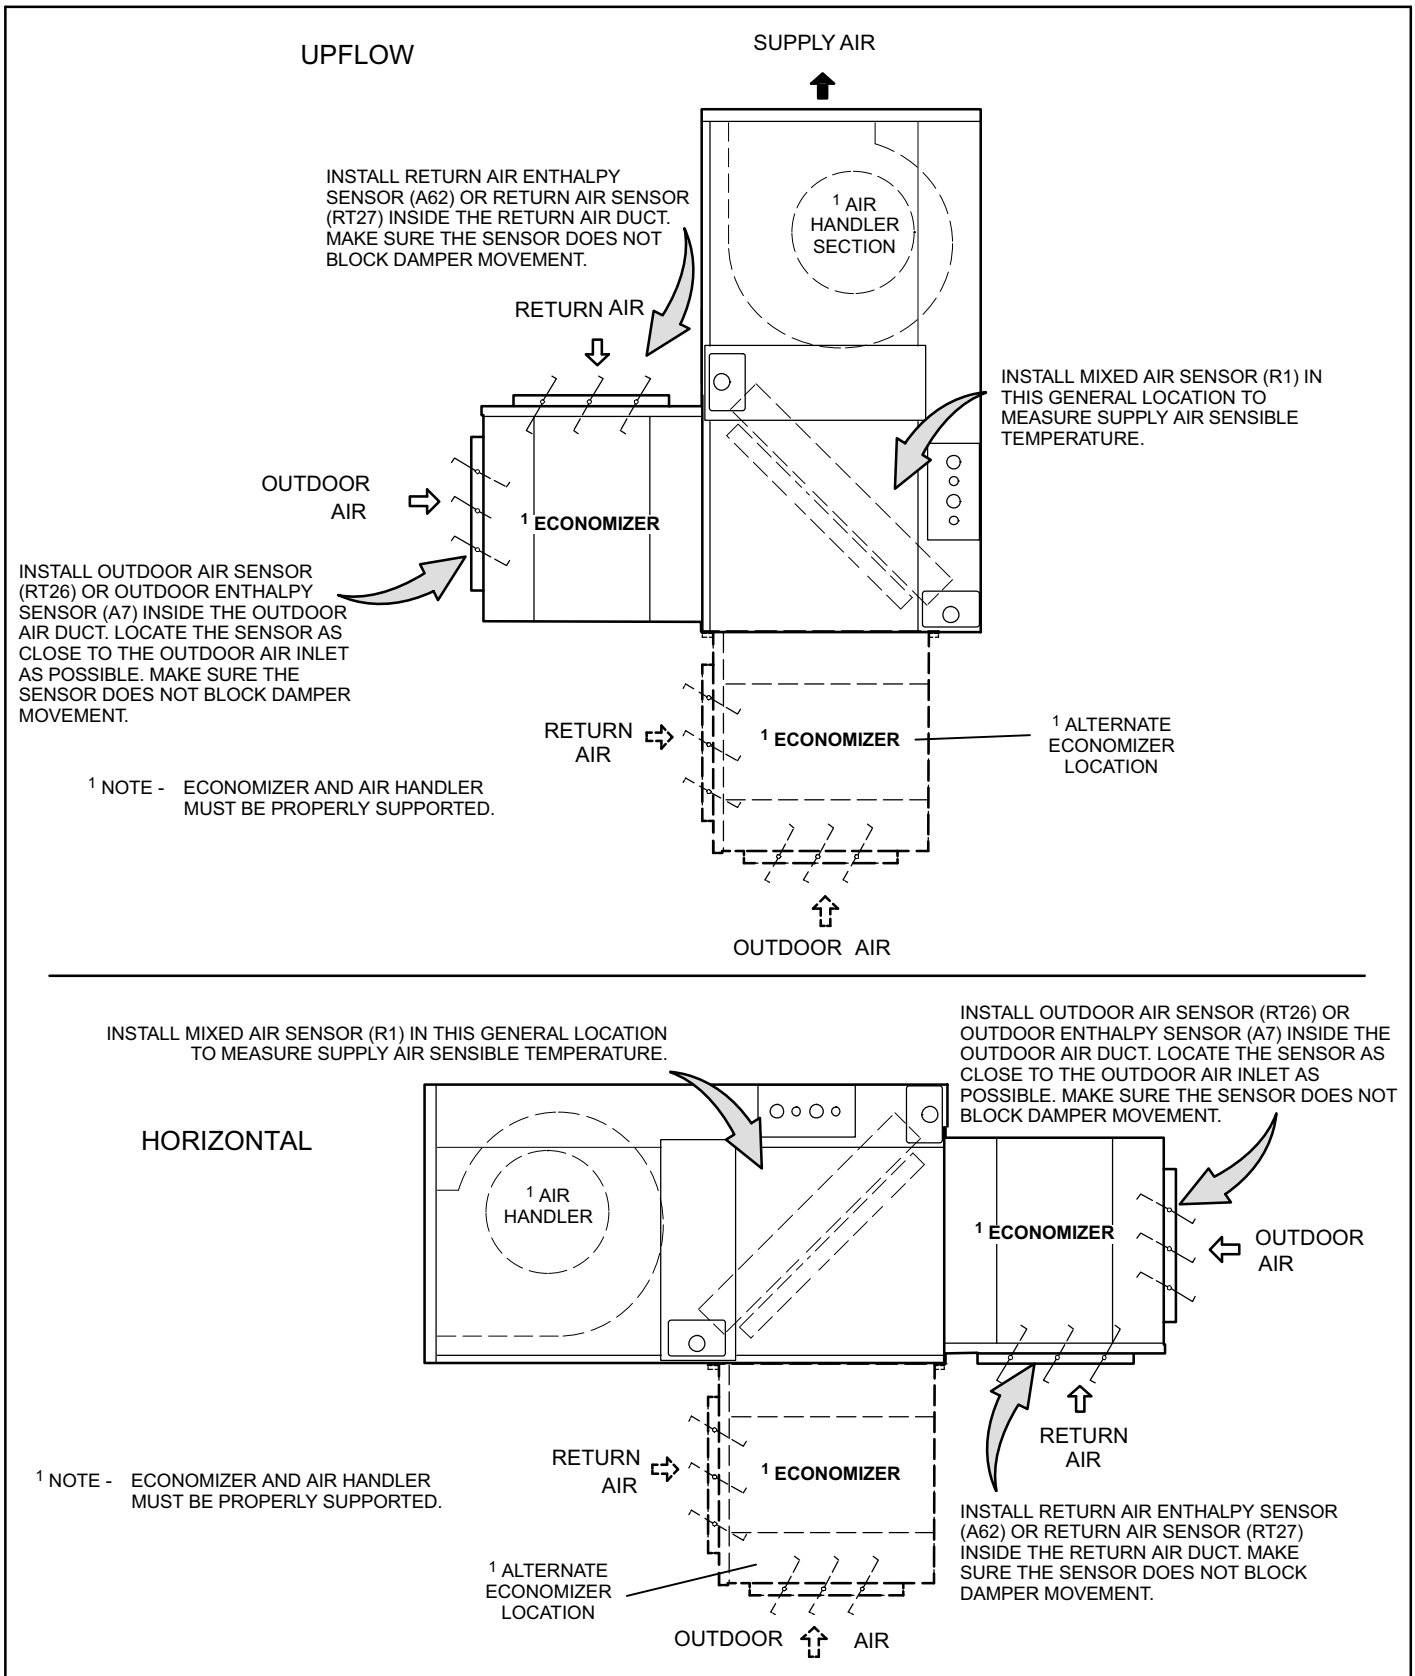

Figure 1. Upflow and Horizontal Applications
outdoor air is suitable for free cooling. For differential control, install the second outdoor air sensor in the return air as shown in figure 1. See table 2 and the instructions provided with optional sensors.
10. Install mixed air sensor as shown in figures 1 and 3.
NOTE — Economizer section may be rotated 180° for bottom return air connections (figure 1).